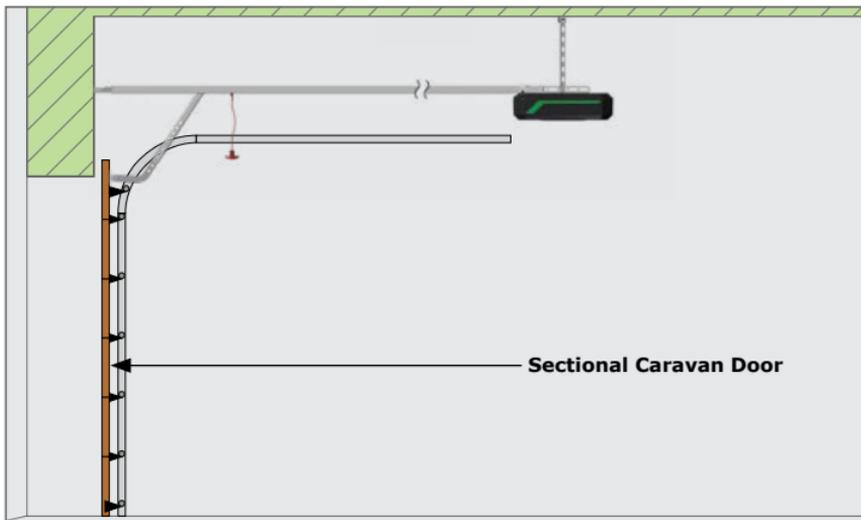

FIGURE 5. SECTIONAL CARAVAN DOORS
- The drive rail must be perpendicular to the door as shown in Figure 5